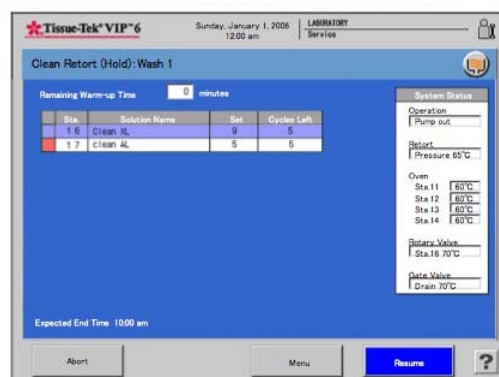

Figure 4-P
- The Clean Retort Hold screen is displayed (Figure 4-P).